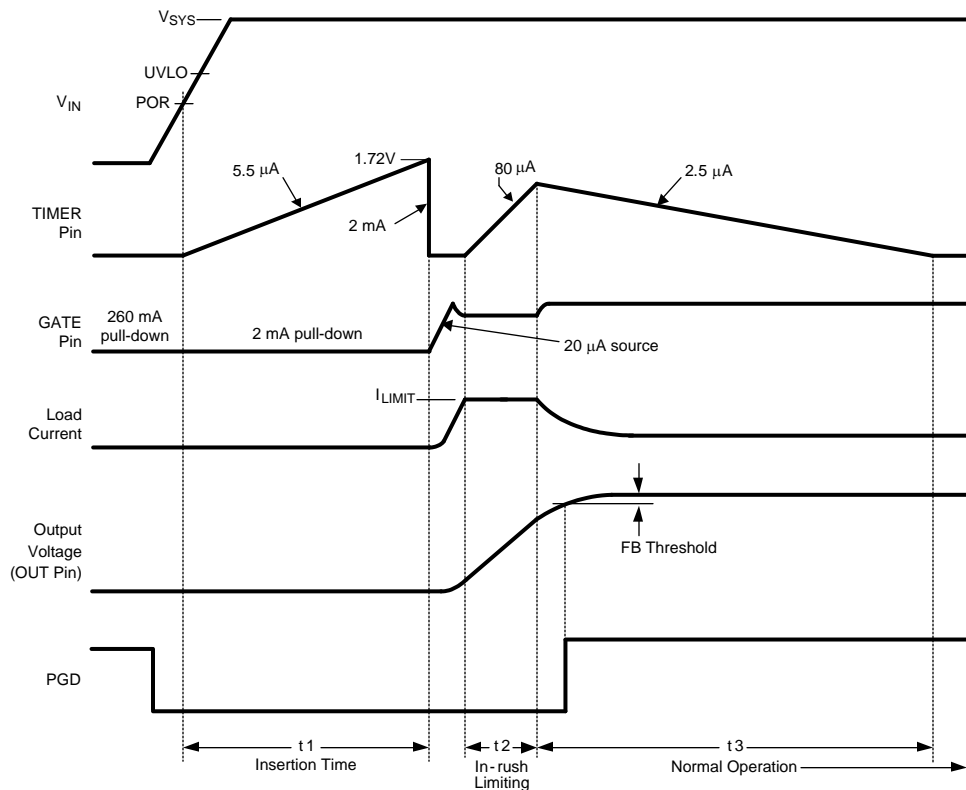

Figure 23. Power Up Sequence (Current Limit only)
The VIN operating range of the LM25061 is +2.9V to +17V, with a transient capability to 20V. Referring to the Block Diagram and Figure 21 and Figure 23, as the voltage at VIN initially increases, the external N-channel MOSFET (Q1) is held off by an internal 260 mA pull-down current at the GATE pin. The strong pull-down current at the GATE pin prevents an inadvertent turn-on as the MOSFET's gate-to-drain (Miller) capacitance is charged. Additionally, the TIMER pin is initially held at ground. When the VIN voltage reaches the POR threshold the insertion time begins. During the insertion time, the capacitor at the TIMER pin (C_T) is charged by a 5.5 μ A current source, and Q1 is held off by a 2 mA pull-down current at the GATE pin regardless of the VIN voltage. The insertion time delay allows ringing and transients at VIN to settle before Q1 is enabled. The insertion time ends when the TIMER pin voltage reaches 1.72V. C_T is then quickly discharged by an internal 2 mA pull-down current. The GATE pin then switches on Q1 when V_{SYS} exceeds the UVLO threshold. If V_{SYS} is above the UVLO threshold at the end of the insertion time, Q1 switches on at that time. The GATE pin charge pump sources 20 μ A to charge Q1's gate capacitance. The maximum voltage at the GATE pin is limited by an internal 19.5V zener diode.
As the voltage at the OUT pin increases, the LM25061 monitors the drain current and power dissipation of MOSFET Q1. In-rush current limiting and/or power limiting circuits actively control the current delivered to the load. During the in-rush limiting interval (t_2 in Figure 23) an internal 80 μ A fault timer current source charges C_T . If Q1's power dissipation and the input current reduce below their respective limiting thresholds before the TIMER pin reaches 1.72V the 80 μ A current source is switched off, and C_T is discharged by the internal 2.5 μ A current sink (t_3 in Figure 23). The in-rush limiting interval is complete when the load current reduces to the normal operating level. The PGD pin switches high when the output voltage exceeds the threshold programmed at the FB pin.
A charge pump provides the voltage at the GATE pin to enhance the N-Channel MOSFET's gate. During normal operating conditions (t_3 in Figure 23) the gate of Q1 is held charged by an internal $20\ \mu\text{A}$ current source. The voltage at the GATE pin (with respect to ground) is limited by an internal 19.5V zener diode. See the graph "GATE Pin Voltage". Since the gate-to-source voltage applied to Q1 could be as high as 19.5V during various conditions, a zener diode with the appropriate voltage rating must be added between the GATE and OUT pins if the maximum V_{GS} rating of the selected MOSFET is less than 19.5V . The external zener diode must have a forward current rating of at least $260\ \text{mA}$.
During the insertion time (t_1 in Figure 23) the GATE pin is held low by a $2\ \text{mA}$ pull-down current. This maintains Q1 in the off-state until the end of t_1 , regardless of the voltage at V_{IN} or UVLO.
Following the insertion time, during t_2 in Figure 23, the gate voltage of Q1 is modulated to keep the current or power dissipation level from exceeding the programmed levels. While in the current or power limiting mode the TIMER pin capacitor is charging. If the current and power limiting cease before the TIMER pin reaches 1.72V the TIMER pin capacitor then discharges, and the circuit enters normal operation.
A) Insertion Delay - Upon applying the system voltage (V_{SYS}) to the circuit, the external MOSFET (Q1) is held off during the insertion time (t_1 in Figure 23) to allow ringing and transients at V_{SYS} to settle. Since each backplane's response to a circuit card plug-in is unique, the worst case settling time must be determined for each application. The insertion time starts when V_{IN} reaches the POR threshold, at which time the internal $5.5 \mu\text{A}$ current source charges C_T from 0V to 1.72V. The required capacitor value is calculated from: